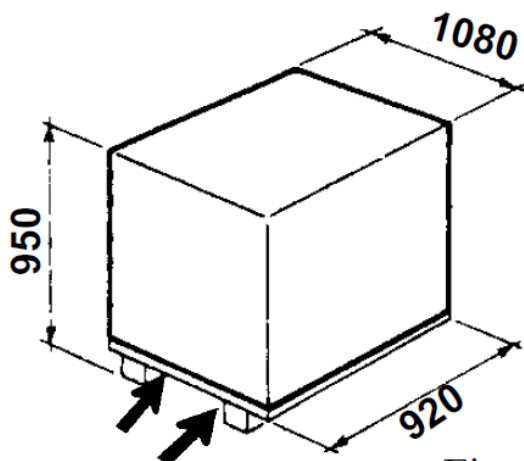

Fig. 3
- The packaged machine may be moved by means of a fork lift truck of suitable capacity. Insert the forks at the points shown in figure 3.